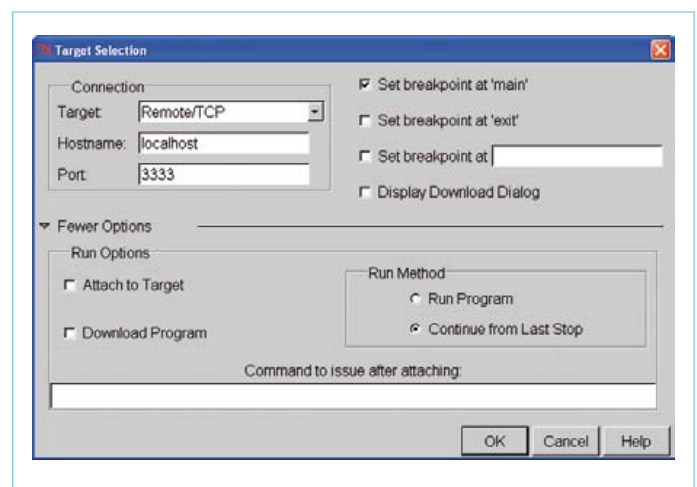

Figure 7. Parameters for Insight that work well.
- **Figure 7** shows how to configure Insight by hand (File -> Target Settings...).